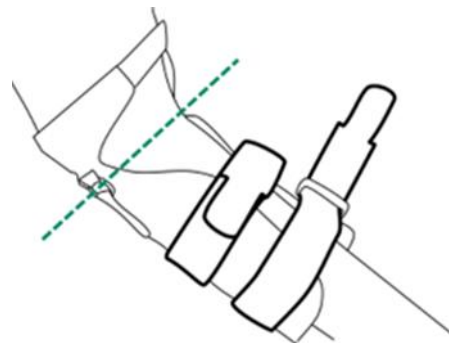

Figure 7
3. Put on the arm cuff. Align the two metal D-rings of the arm cuff with the elbow rotation axis (green dotted line) and close the Velcro (Fig. 7).